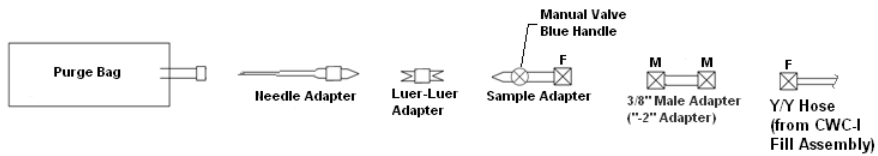

Figure 10-3.- CWC-I Fill Assembly purge hardware.
B. CWC-I FILL ASSEMBLY PURGE (see fig 10-3)
2. Assemble Purge hardware as shown in fig 10-3
C. PURGE ASSEMBLY TEARDOWN (see fig 10-3)
1. De-mate all connections shown in fig 10-3